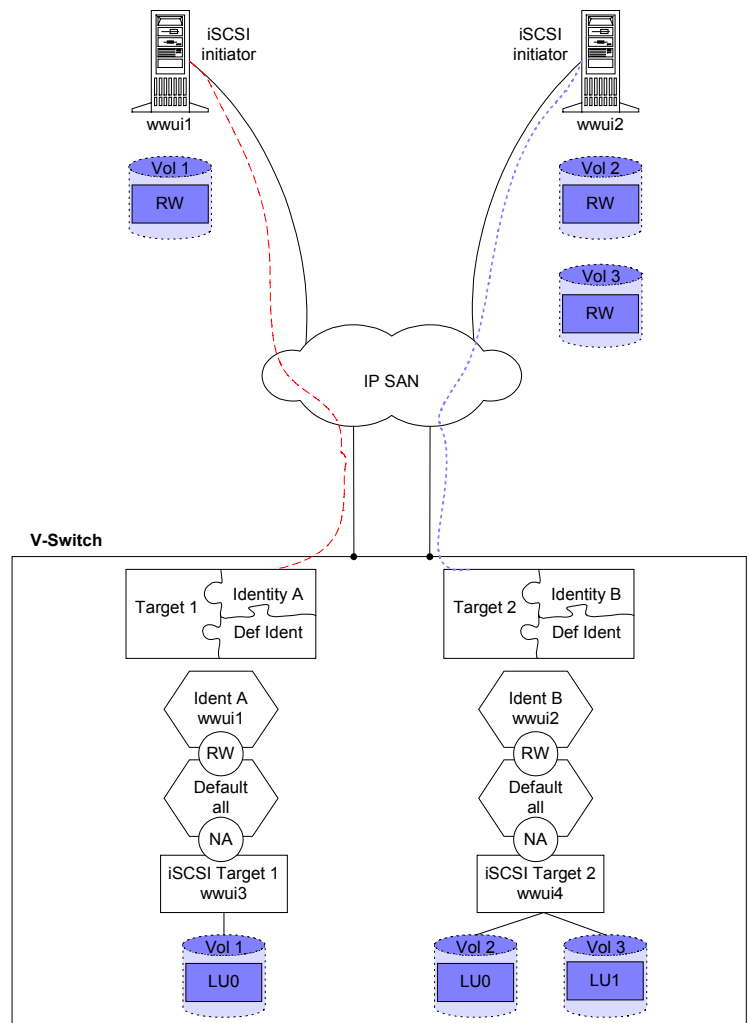

Figure 61. Modifying Default Identities
In Figure 61, the default identities for Target 1 and Target 2 have been modified to not accessible (NA) for all initiators. Remember that the default identity is in position 0 so it is the last position scanned by the V-Switch.